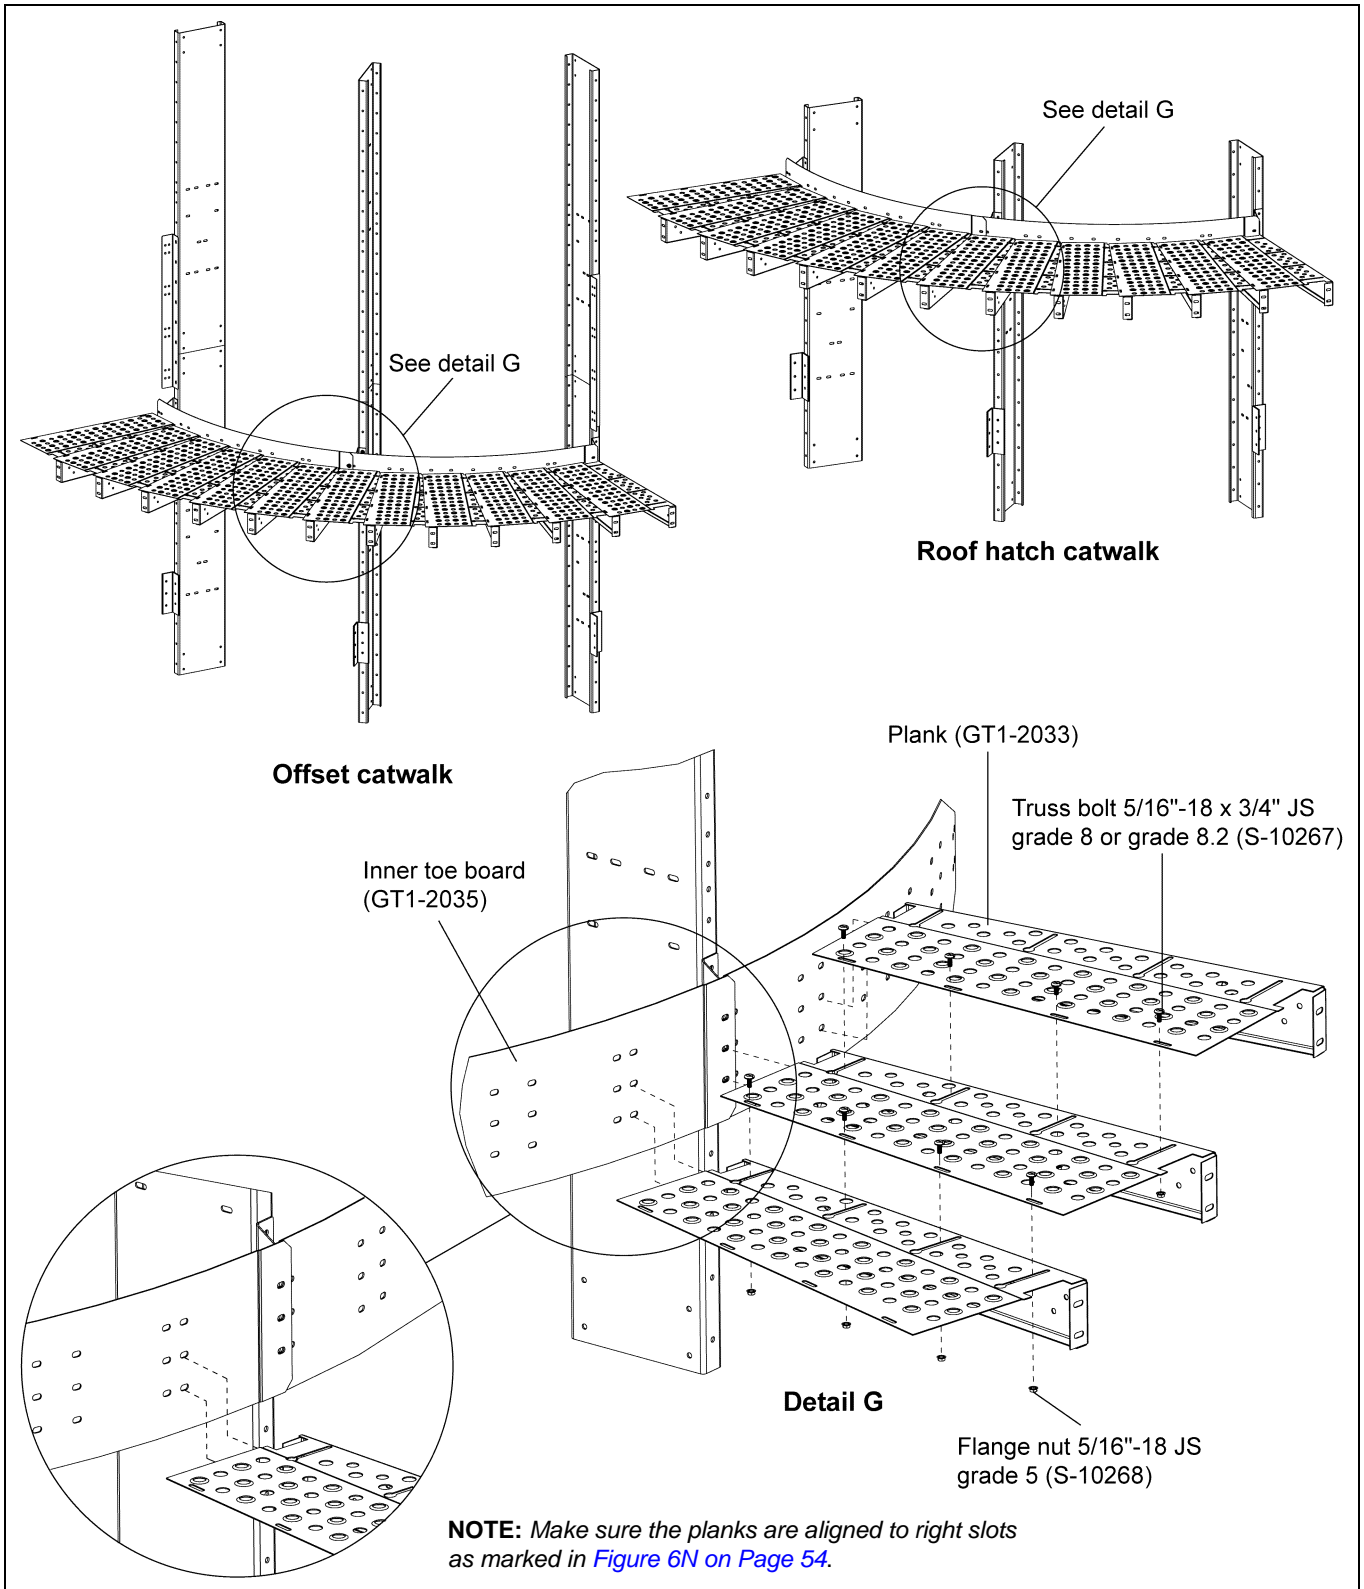

Figure 6M Inner Toe Board (GT1-2035) Plank Installation for Offset and Roof Hatch Catwalks
1. Install planks (GT1-2033) to bottom two (2) holes of the inner toe board (GT1-2035) using 3/8"-16 x 1" JS grade 8 or grade 8.2 bolts (S-7485) and 3/8"-16 ZN grade 5 nuts (S-968). (See Figure 6M.)